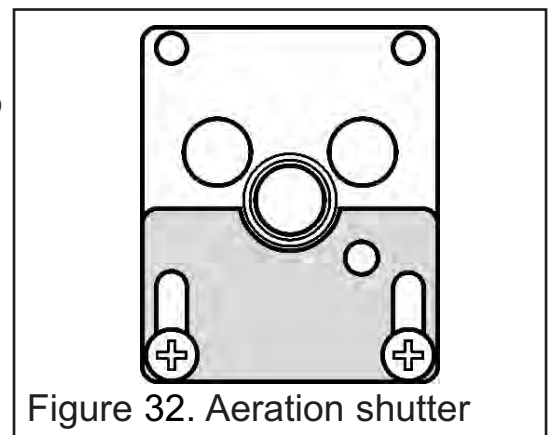

Figure 32. Aeration shutter
1. The aeration shutter is factory set. It is important to ensure that the aeration setting is correct (See figure 32).